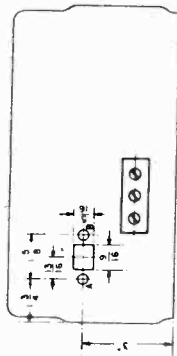

Fig. 3
- (a) Mark dimensions on cabinet back as shown in Fig. 3.